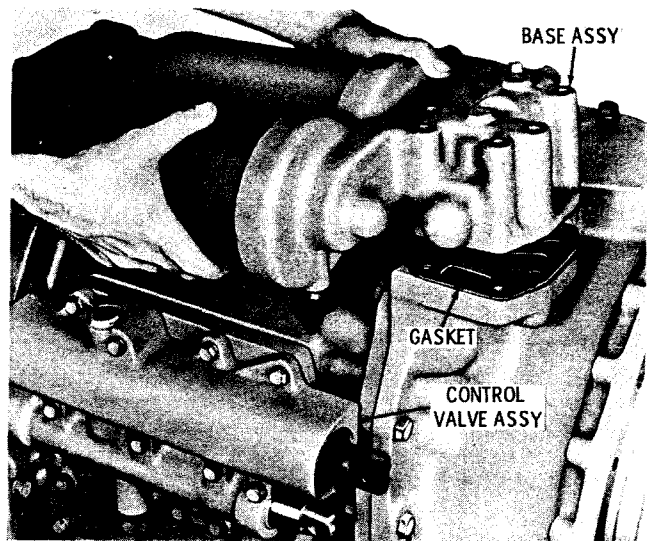

Fig. 7-56. Installing oil filter base assembly
(6) Install the oil filter base gasket, and oil filter base (or oil filter adapter on remote-mounted-filter models) as shown in figure 7-56. Install six 7/16-14 x 4 1/2-inch bolts, with lock washers, to retain the filter base. Install six 7/16-14 x 2 3/4-inch bolts, with lock washers, to retain the oil filter adapter. Tighten the bolts evenly to 42 to 50 pound feet torque.